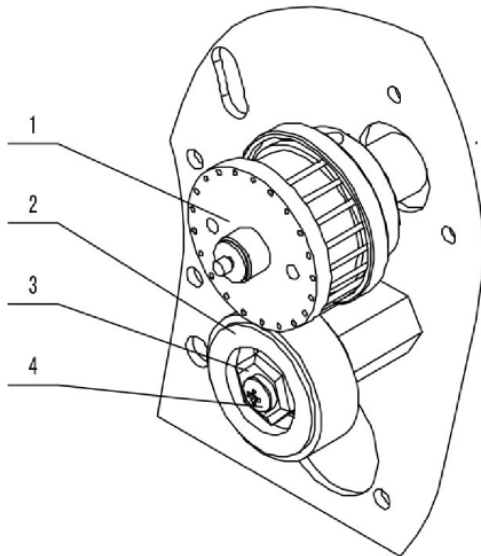

Figure 23. (1) Printing Wheel, (2) Silicone Wheel, (3) Eccentric Sleeve, (4) Screw
7. **Make Adjustments Between Printing Wheel and Silicone Wheel.** The typesets/characters on the printwheel should only touch the silicone wheel during the printing process. The characters should not touch the silicone wheel at any other time. If the band sealer is used to seal relatively thicker materials, the screw (Figure 23, Item #4) should be loosened. Rotate the eccentric sleeve (Figure 23, Item #3) to ensure the characters/typesets slightly touch the silicone wheel's surface. Refasten the screw after making adjustments.